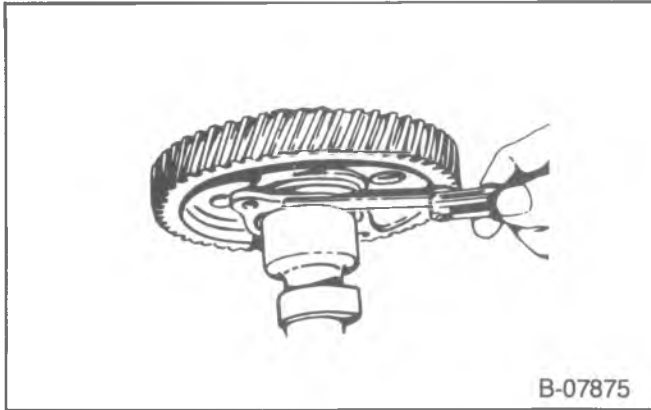

Figure 29—Measuring Camshaft To Thrust Plate Clearance
Measure (Figure 29)
- Thrust plate to camshaft clearance. Use a feeler gage (figure 29). The proper clearance is 0.003-0.008-inch. If the clearance is excessive, replace the thrust plate. If the clearance is insufficient, replace the spacer ring. Refer to the proper unit repair manual.